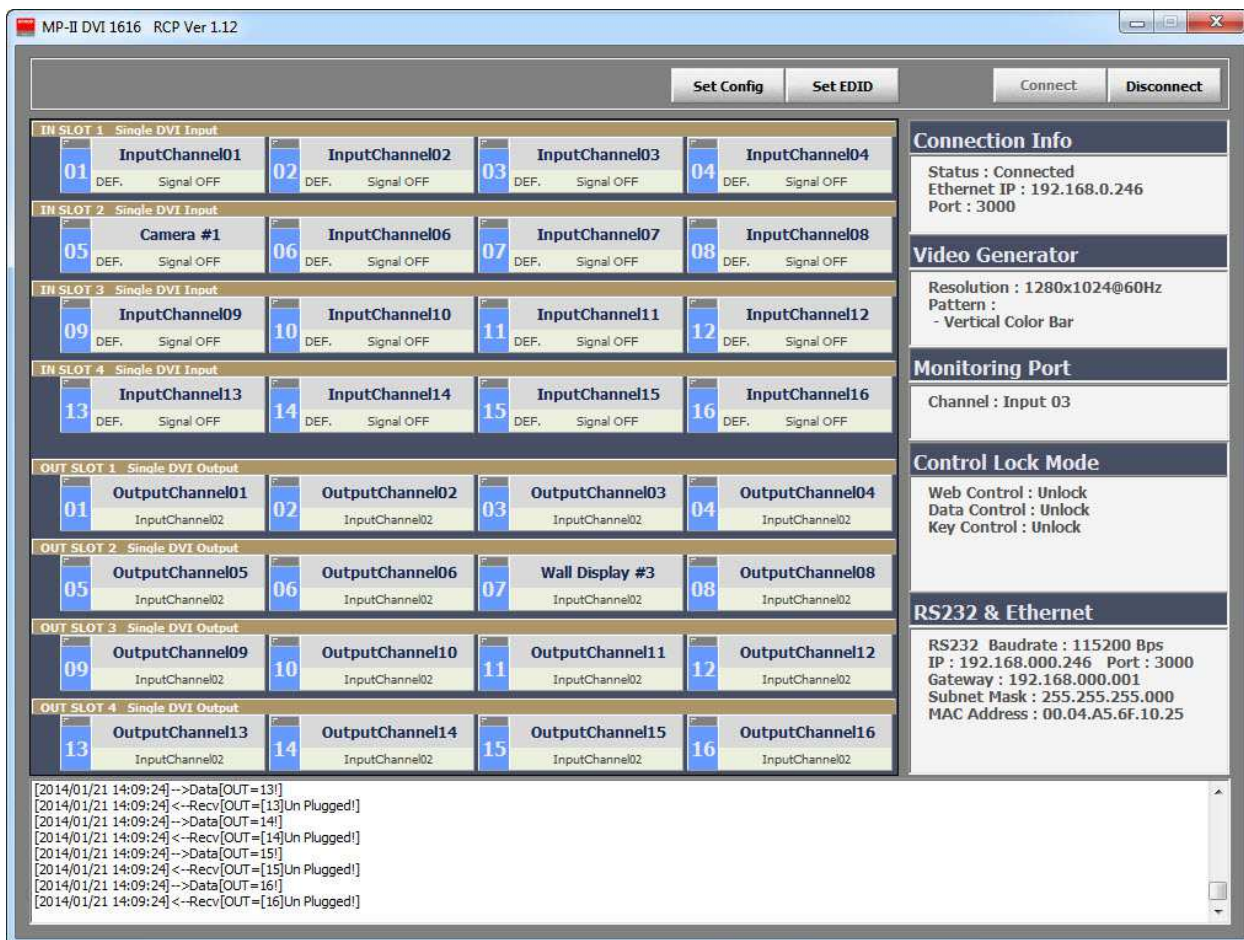

Figure 5-1: MP-II DVI 16x16 Software GUI
- Click the Save button to save your inputs. After savings, your inputs will be applied on the PC program as shown in Fig 5-1.